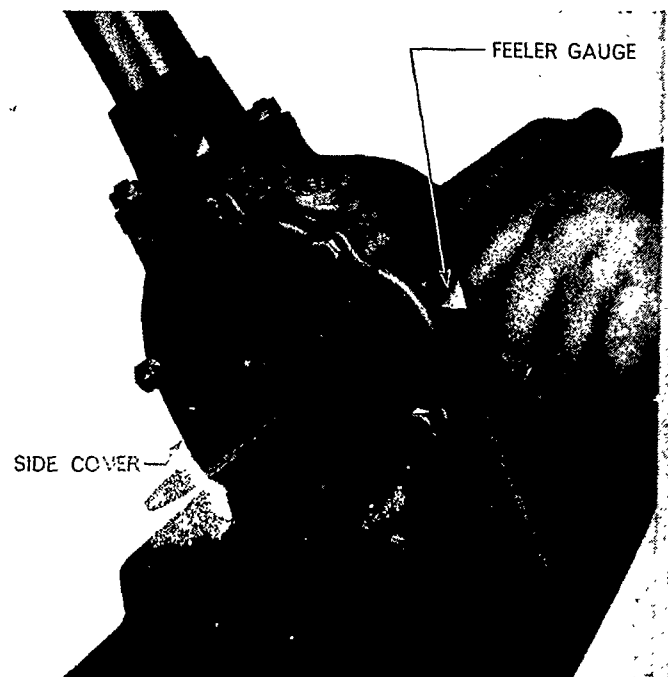

Figure 19
8. Install the side cover and retain in position with the nuts and bolts, and tighten them evenly until there is no perceptible end-float in the rocker shaft. Measure the gap between the housing and the side cover with feeler gauges at various points to obtain an average reading, Figure 19. Remove the side cover and position the roller on the shaft main nut. Install the side cover with the appropriate shims to give the required thickness previously measured less the compressed thickness of the gaskets used. Retain with the nuts, bolts and lockwashers and tighten to the specified torque. (See Specifications Section). Temporarily install the steering wheel and using a pull scale on the outer edge the resistance to turning should fall between 1 lb. (45 kg.) and 2.75 lbs. (1.5 kg.). If incorrect adjust the shims accordingly. Apply sealer to the gaskets on final assembly.